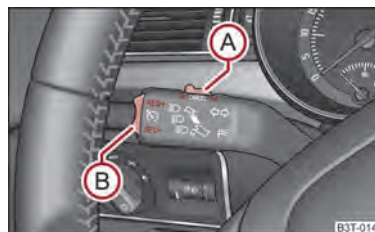

Fig. 125 Operating lever: Rocker button and switch of the cruise control system
The cruise control system is operated by means of the switch **(A)** ⇒ fig. 125 and the rocker button **(B)** in the left lever of the multi-functional switch.
- You can **increase** the stored speed without depressing the accelerator, by pressing the rocker button (B) ⇒ fig. 125 in the **RES** position.
The **Resumption** of the stored speed is achieved by releasing the brake or clutch pedal, on vehicles fitted with automatic gearbox only after releasing the brake pedal and after shortly pressing the rocker button (B) ⇒ fig. 125 into the position **RES**.
- Press the switch (A) ⇒ fig. 125 to the right into position **OFF**.